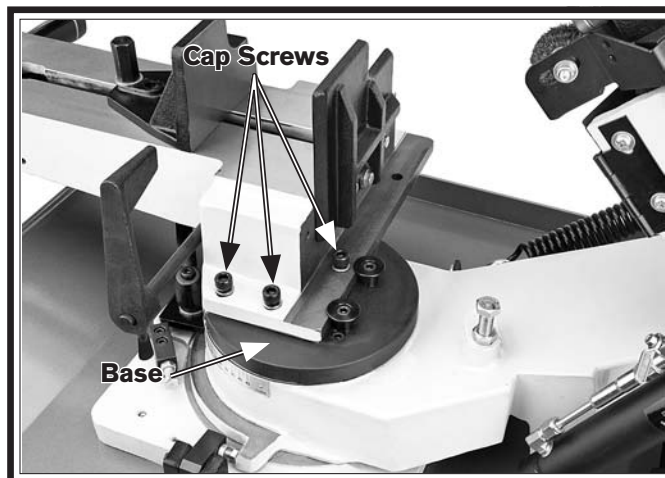

Figure 29. Moving vise.
4. Remove the three cap screws that secure the vise to the machine base shown in **Figure 29**.